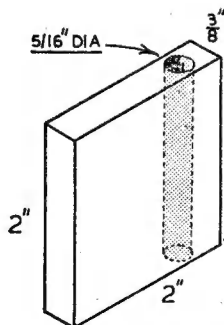

Fig. 1. The finished work-piece
Two arms at the top of the stand are made from  $\frac{3}{8}$  in. diameter dural tube or conduit and are each 3 ft. long. They are bent to an angle of about 20 degrees twelve inches from one end of each. Both arms are drilled to take 2-B.A. round-head screws which support the "U" shaped brackets. The latter support the two outrigger lamps and reflectors, as shown in Fig. 1.
*Right: Fig. 1. Details of assembled stand. The four feet are secured by a single bolt and wing-nut*
**A**N accurate drilling operation was required recently when making a batch of four components similar to that illustrated in Fig. 1. With the parts mounted in pairs on a shaft, it was important that the large side faces should lie flat when tested on the surface-plate. If the drilling is carried out in a haphazard manner by a beginner who does not appreciate the attendant difficulties, it is possible that the holes will not be placed centrally on the work and, as there is very little to spare when drilling a  $\frac{5}{16}$ -in. diameter hole in  $\frac{3}{8}$ -in. material, a very small error of centring may spoil the work. Moreover, where the holes are not drilled axially through the work, the parts may be useless for their intended purpose.